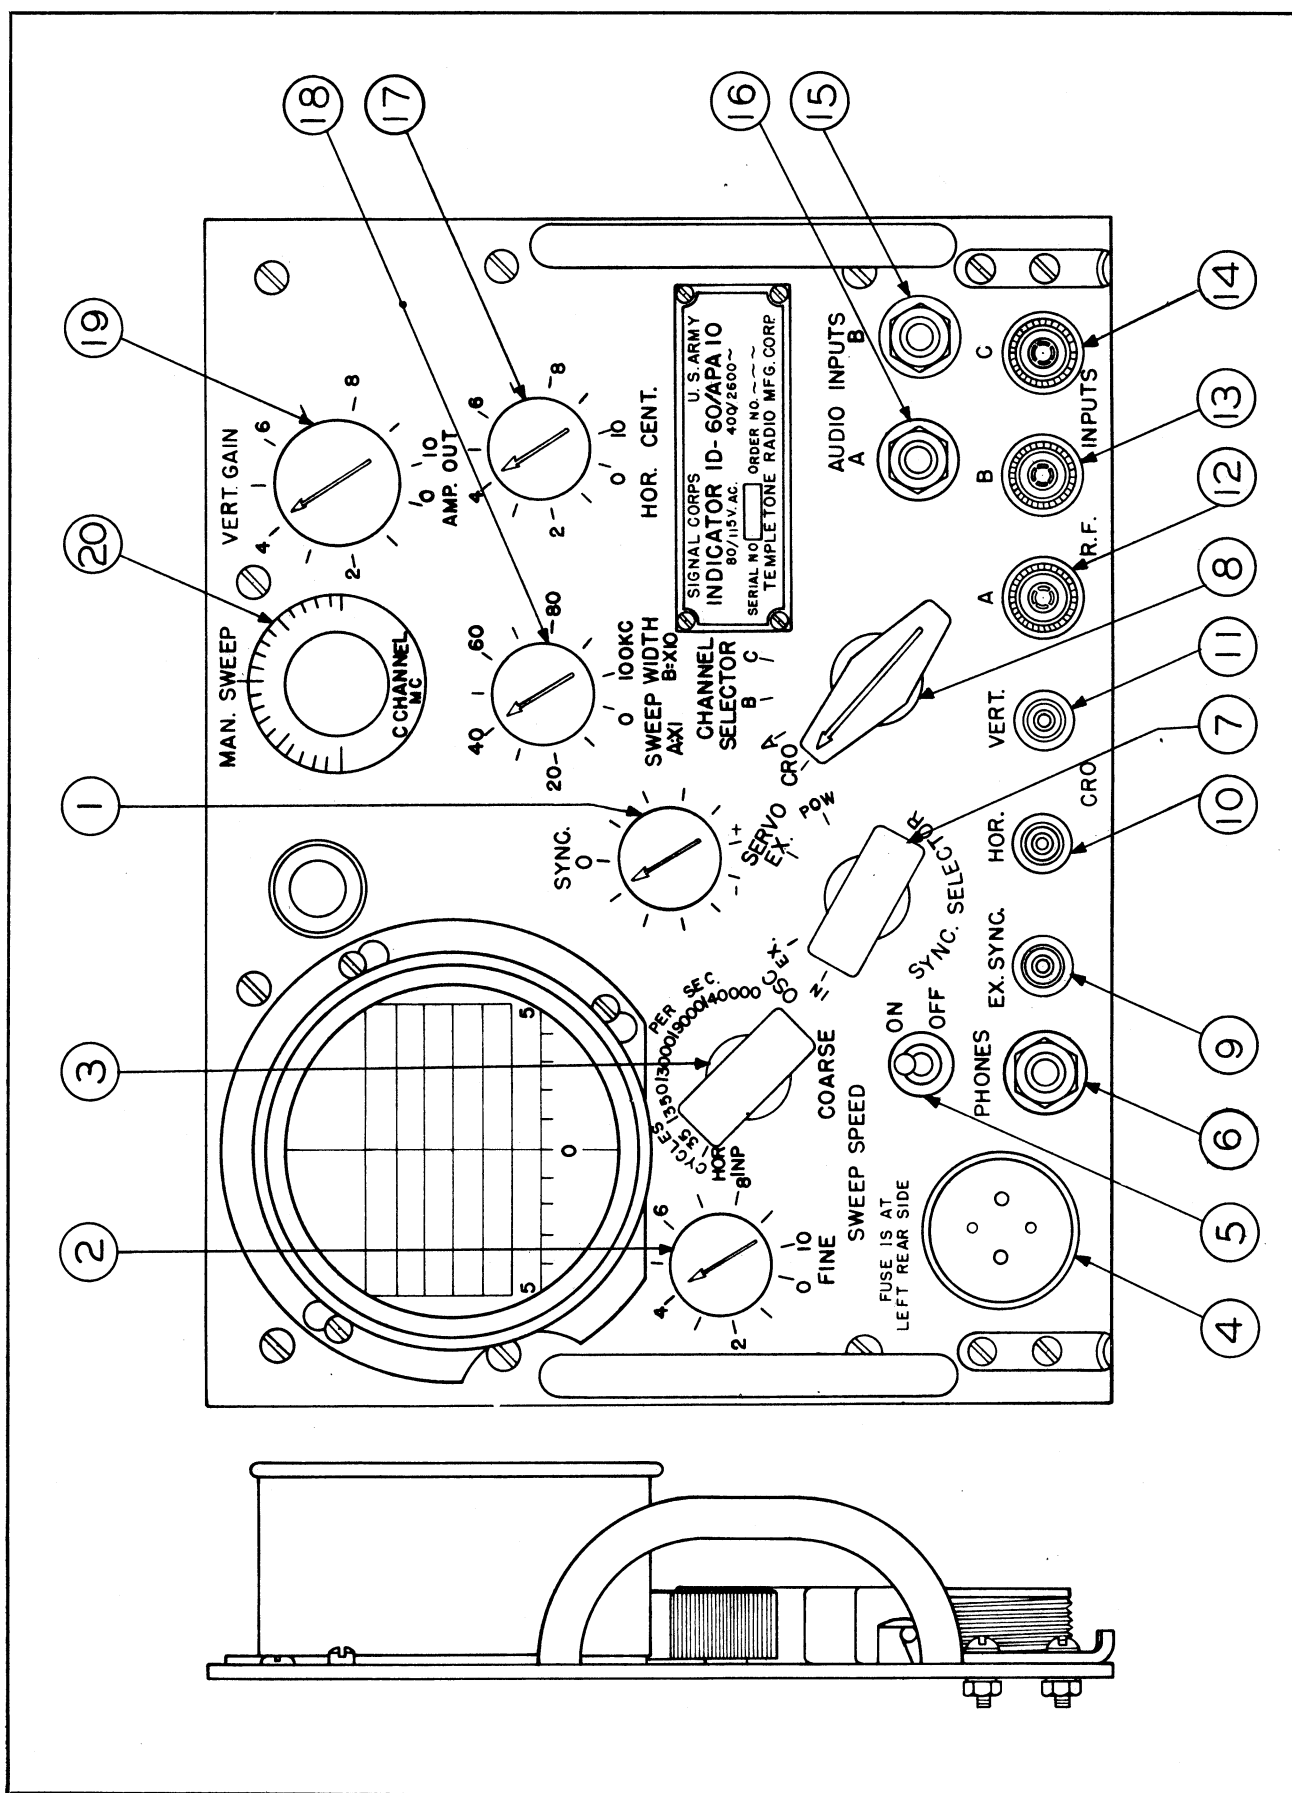

Figure 2-5. Panoramic Adapter AN/APA-10—Panel Controls
b. CHANNEL A.—(All controls reference numbers apply to figs. 2-5, 2-6, 2-7 and 1-2.)
(1) Turn the "CHANNEL SELECTOR" switch (8) located on the panel of the indicator to A position. A trace should appear on the screen within 30 seconds and should fall about $\frac{3}{4}$ inches below the center.